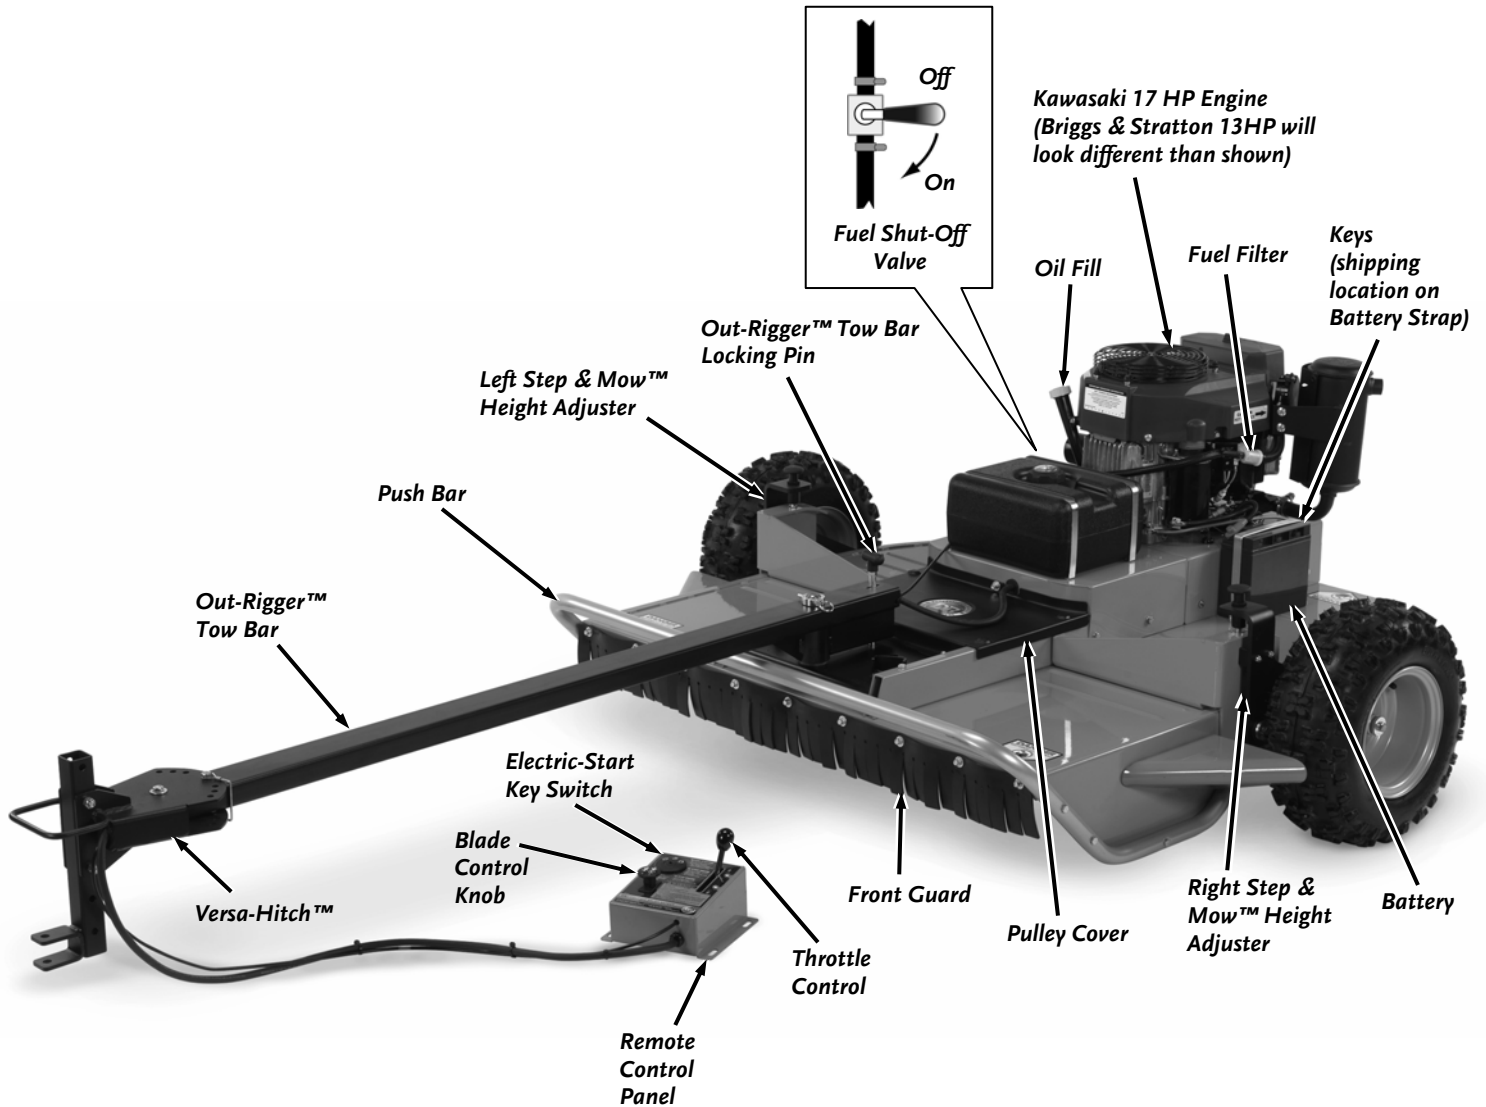

Figure 1
It may be helpful to familiarize yourself with the controls and features of your TOW-BEHIND DR FIELD and BRUSH MOWER by reviewing **Figure 1** before beginning these procedures. If you have any questions at all, please feel free to contact us at [www.DRpower.com](http://www.DRpower.com).
**NOTE:** The model shown in Figure 1 may look slightly different from your machine.
Unpacking and assembling the TOW-BEHIND DR FIELD and BRUSH MOWER is a two-person job as the 13 HP unit weighs 442 pounds and the 17 HP unit weighs 465 pounds. We recommend you have an extra set of hands available before you begin. Electric Start models have the Key located on the rear of the Battery Strap as shown in Figure 1 on page 7.